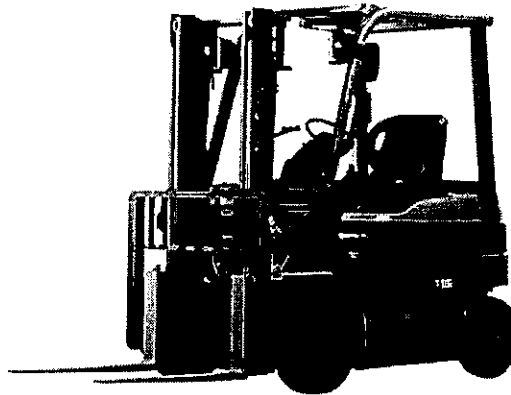

Figure 27: Example of Forklift*
6. Forklift for Clean Room (example in Figure 27) (1 set)